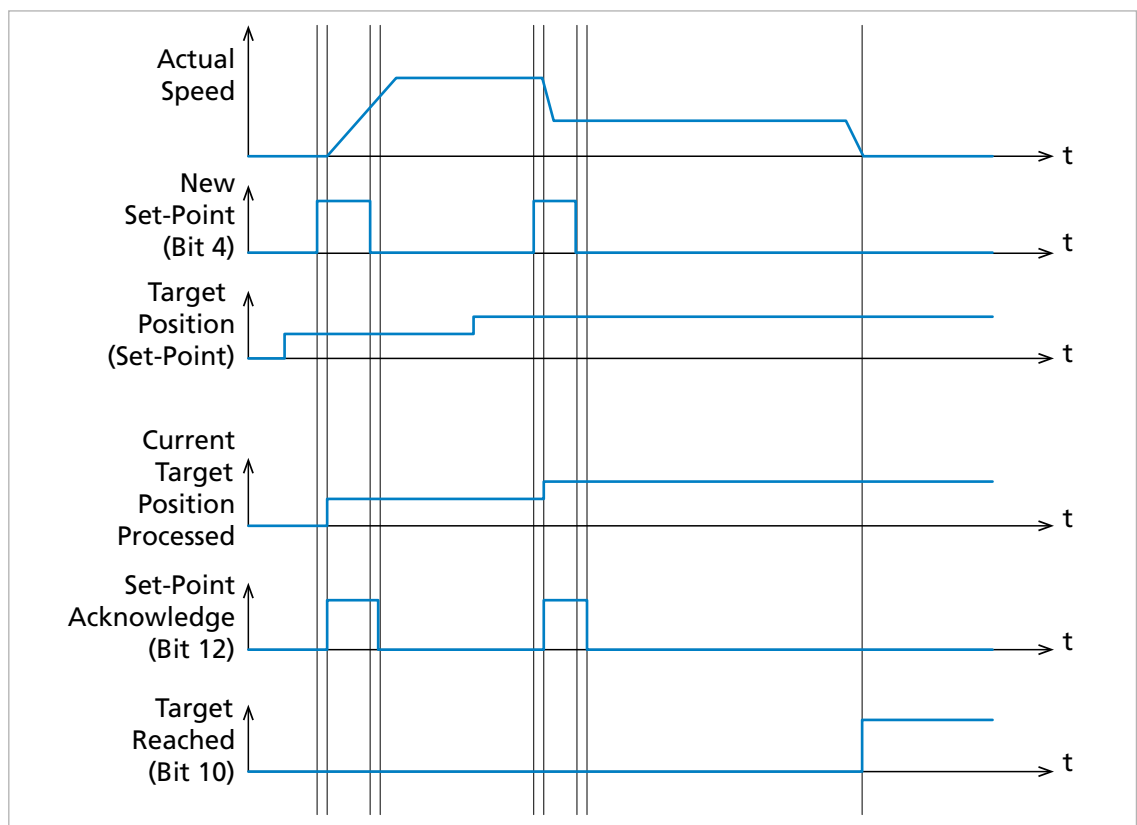

Fig. 28: Handshaking procedure for a succession of set-points, each set-point is loaded immediately
- i** In the example shown (see Fig. 28), new instructions for the acceleration or the speed were communicated with the new set-point; this is evidenced by the change of the velocity profile (Actual Speed).